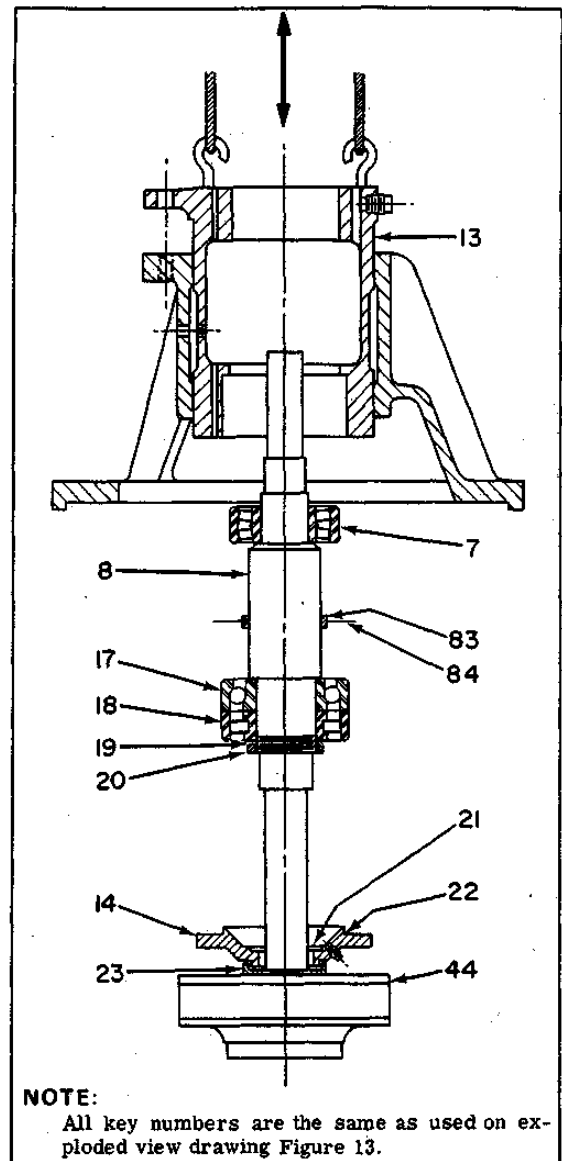

Figure 8. Front Liner Assembly
NOTE: Study Figure 8 showing recommended method of handling frame assembly during the dismantling and assembly operations. Using the impeller as a stand, the frame with frame liner maybe lifted vertically with hooks as shown.
- b. Screw impeller onto shaft far enough to provide a rigid mounting and stand the assembly on end per Figure 8.
NOTE: Study Figure 8 showing recommended method of handling frame assembly during the assembly operation.
- f. Lower frame and liner over shaft and bearings per Figure 8. Proceed slowly and notice that as slingers enter the frame liner they must deflect and spring back into place when they reach the center of the bearing cavity. With a spherical roller bearing, it may be necessary to guide it into the fit in the liner. Note the outer race from an old bearing serves as an ideal tool if placed into the liner at this time. You may slide it down in the fit until it contacts the upper shaft bearing. By tapping lightly on this "tool" you can square up the bearing race and it will enter to fit easily. Continue to lower frame and liner until the liner rests solidly against the lower bearing outer race.